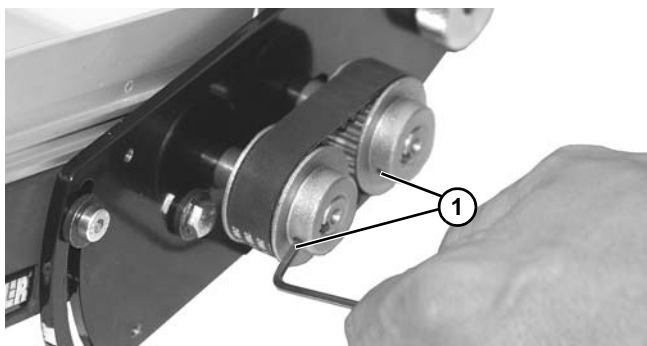

Figure 80
7. Be certain both pulleys are flush with shaft and tighten set screws (**Figure 80, item 1**) onto pulleys.